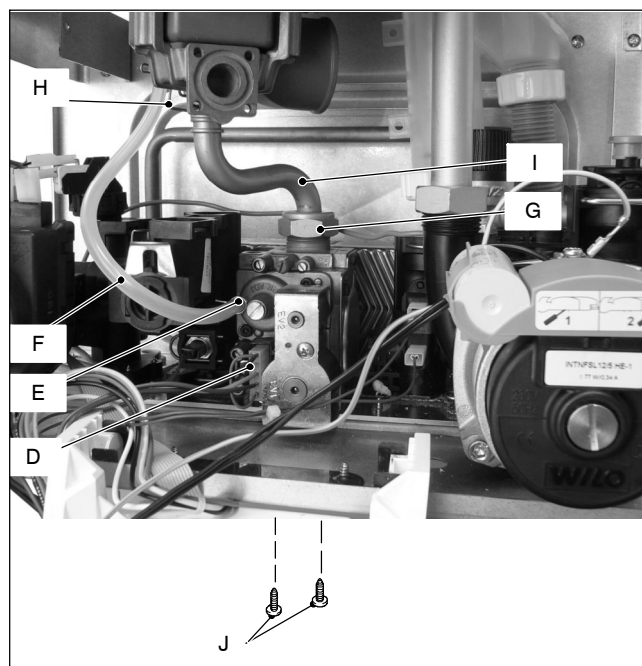

Fig. 11.12
- 2 Disconnect the connector *D* (Fig. 11.12).
- 4 Using pliers, remove the spring *E* and the rubber pipe *F* (Fig. 11.12).
- 5 Unscrew the connector *G* (Fig. 11.12), remove the fixing fork *H* and remove the pipe *I*.
- 6 Unscrew the screws *J* and remove the valve (Fig. 11.12).